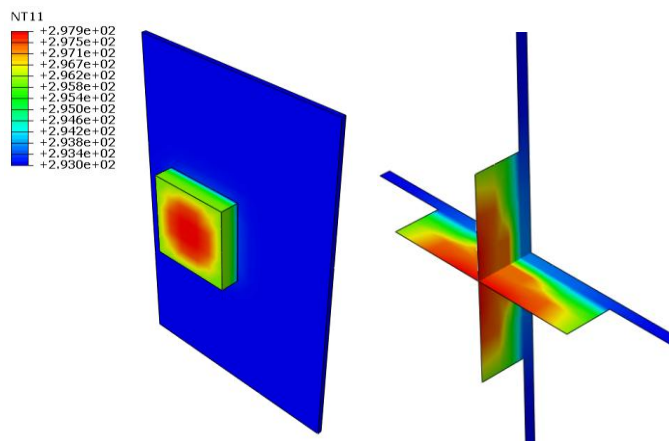

Figure W2-7 Temperature contours: PCB-component assembly
1. Create a temperature contour plot for the PCB-component assembly, as shown in Figure W2-7. Also, activate the two cut-planes used earlier (perpendicular to the  $x$ - and  $y$ -axes and cutting the component through the center).